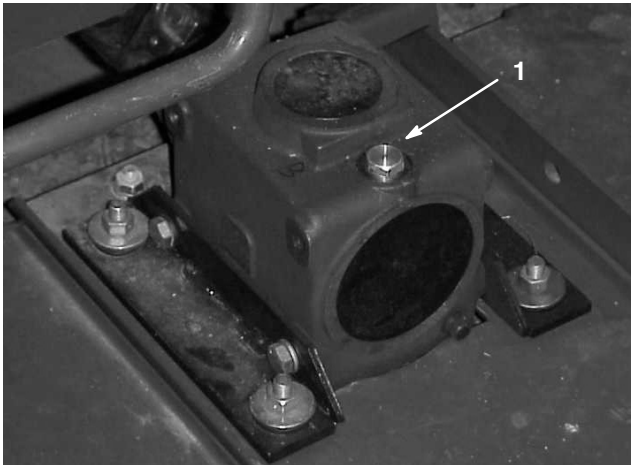

Figure 22
2. Position the machine and cutting unit on a level surface and lower the cutting unit. Remove the dipstick/fill plug from the top of the gear box (Fig. 22) and make sure that the lubricant is between the marks on the dipstick. If the lubricant level is low, add SAE 80–90 wt. gear lube until the level is between the marks.